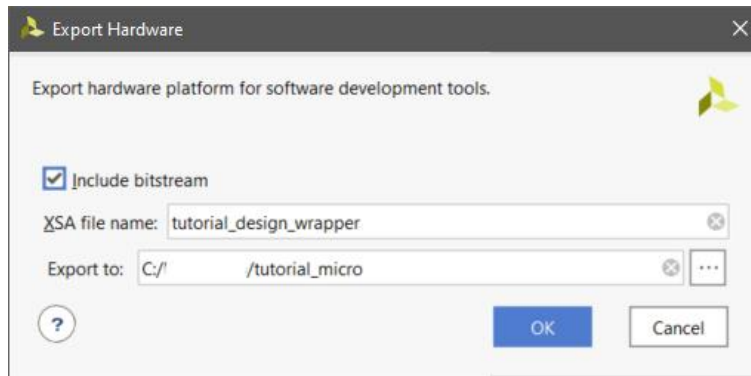

Figure 20
2. Check the box to **Include Bitstream** and click **OK** (Figure 20)